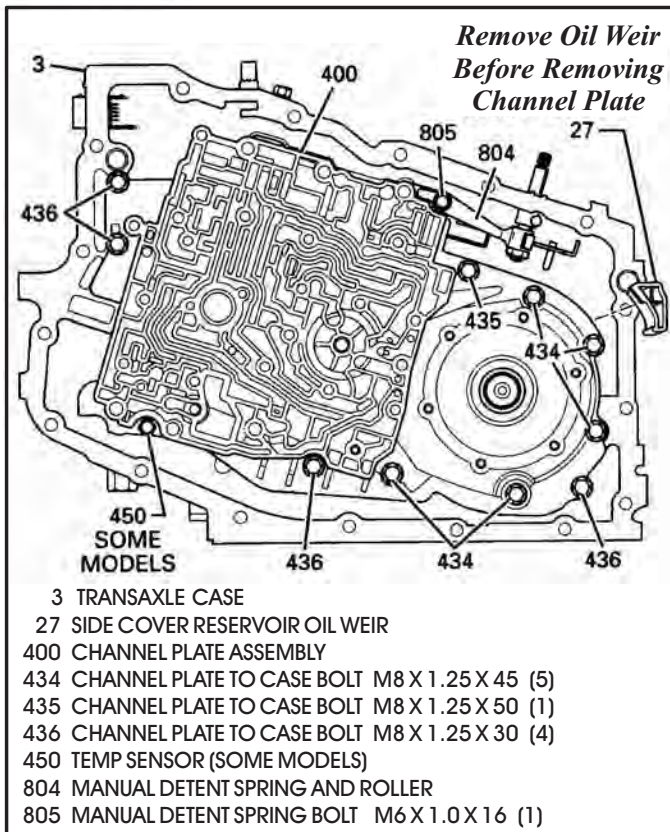
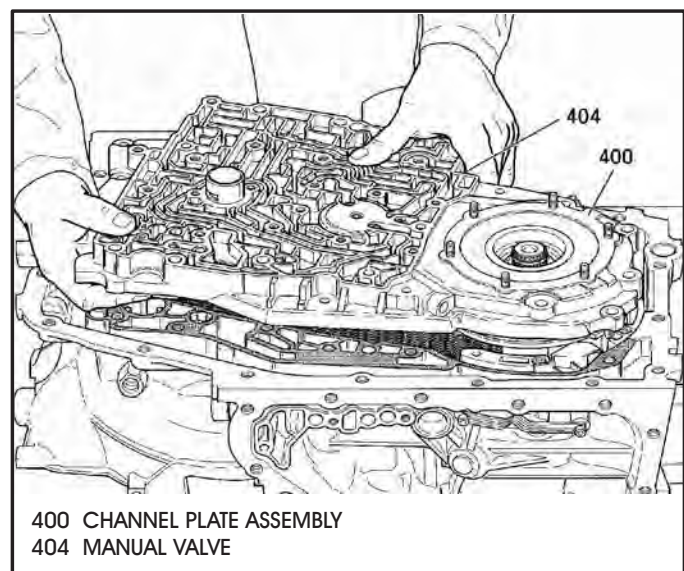

Figure 57
Figure 60
31. Remove the side cover reservoir oil weir from case, as shown in Figure 57.
34. Remove the remaining channel plate to case retaining bolts, shown in Figure 57, and lift off the channel plate while ensuring manual valve is held in place, as shown in Figure 60.
36. Remove and discard the channel plate to case gaskets (See Figures 60 and 61).